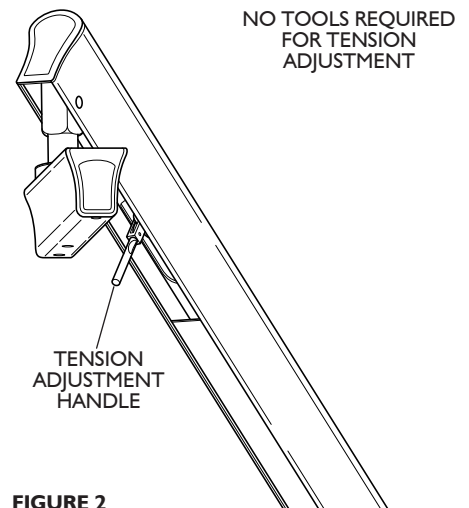

FIGURE 2
**See Figure 2.** The opening under the tubing provides access to the handle for the tension adjustment. The handle is located underneath the supply tubing and will present itself if the tubing is moved to one side. Spring tension is adjusted by moving the handle either to the left or the right. If the control unit drifts up, move the handle counter-clockwise (as viewed from front of control unit) to reduce tension - disengage collar by moving handle toward the unit head - advance the handle and reengage - repeat until desired tension is achieved. If the control unit drifts down, move the handle clockwise (as viewed from front of control unit) to increase tension - disengage collar by moving handle toward the unit head - advance the handle and reengage - repeat until desired tension is achieved. Replace tubing back to original position and slide the long plastic strip back into place - the tension adjustment handle will fold out of the way automatically.